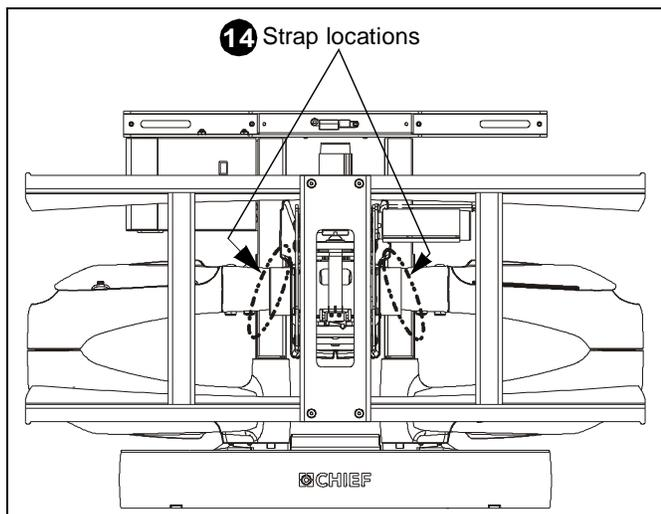

Figure 14
14. Remove two orange hook and loop straps holding PXR arms in place. (See Figure 14)